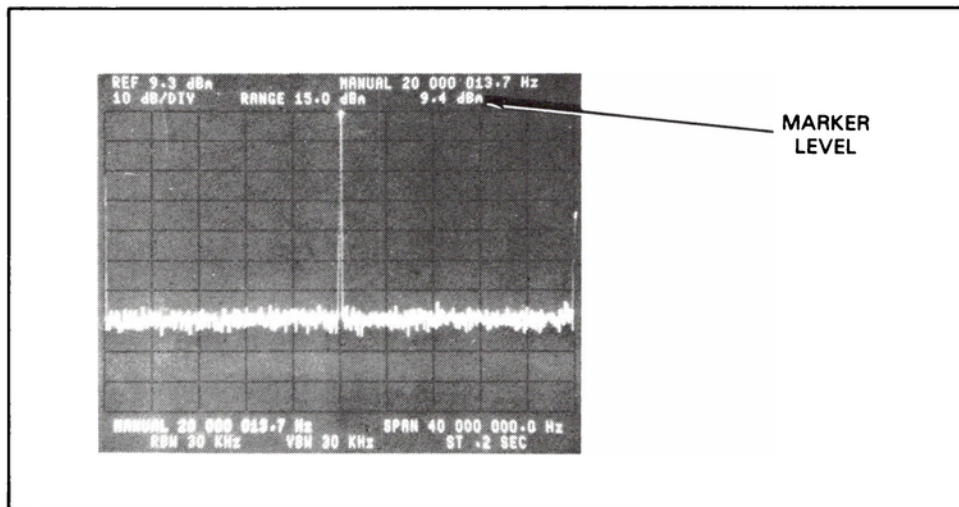

Figure 7-1. -hp- 3585A Marker Level
- d. Record the -hp- 3585A marker level (See Figure 7-1) on the Performance Test Record card.